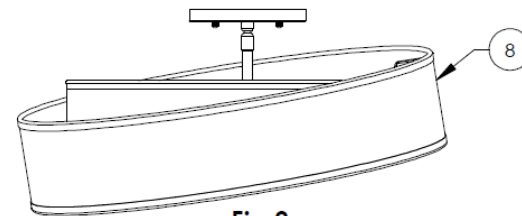

Fig 2
- Install outer shade (8), by positioning and aligning to maneuver the shade (as shown in Fig 2) and let the 3 "L" brackets (10) set on top of the wireframe of the inner shade (7).